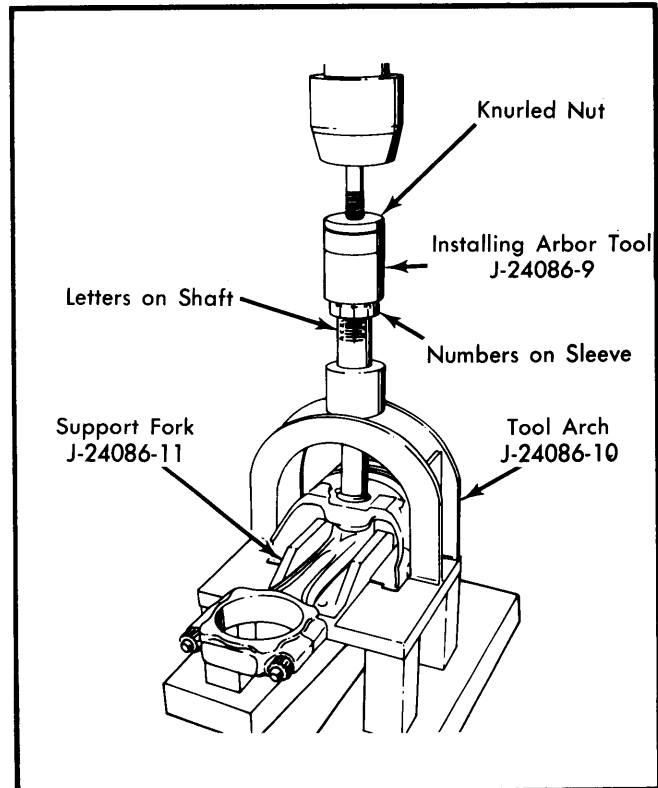

Fig. 4 Piston Pin Installation Tools
3) Adjust installing arbor (J-24086-9) to "G8" by turning numbered sleeve on lettered shaft. Turn knurled nut to lock numbered sleeve. See Fig. 4.